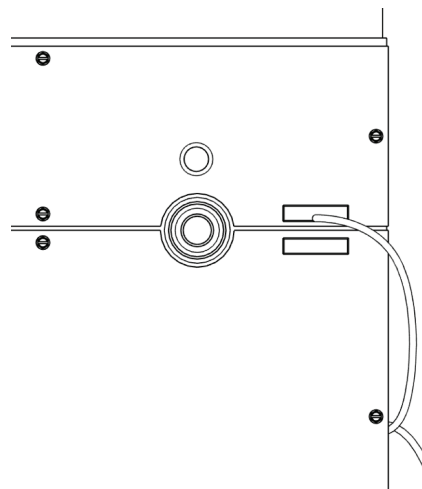

Fig. 11. Magnetic switch installation location.
- Connect magnetic switch. See figure 11.